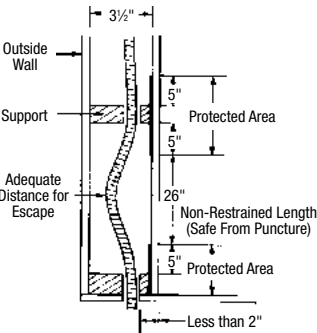

Figure 4.9 Elevated View of Unsupported Horizontal Tubing Run
- 1. At support points and areas of possible penetration less than 2 inches away from any edge of a stud, joist, plate, etc., shielding is required both at the area of support and within 5 inches of each side. (Figure 4.9)